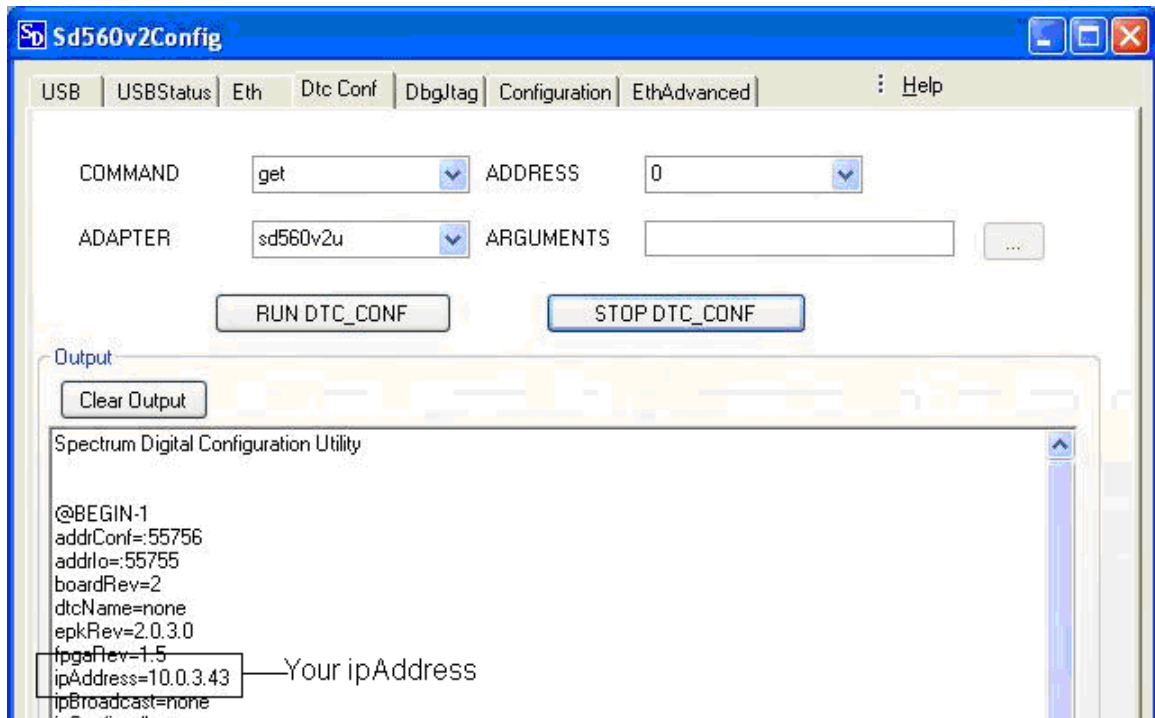

FIGURE 26: Sd560v2Config – DtcConf tab to get Ethernet ipAddress.
- Select the port address (0) on which USB is connected to the PC.
- Click on RUN DTC_CONF. A sample output is as shown in figure 26 below.